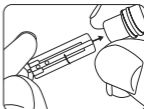

Figure 24
**STEP 2:** Insert a sterile lancet into the lancet holder of the lancing device and push down firmly until lancet is fully seated. Do not twist the lancet. See Figure 24.